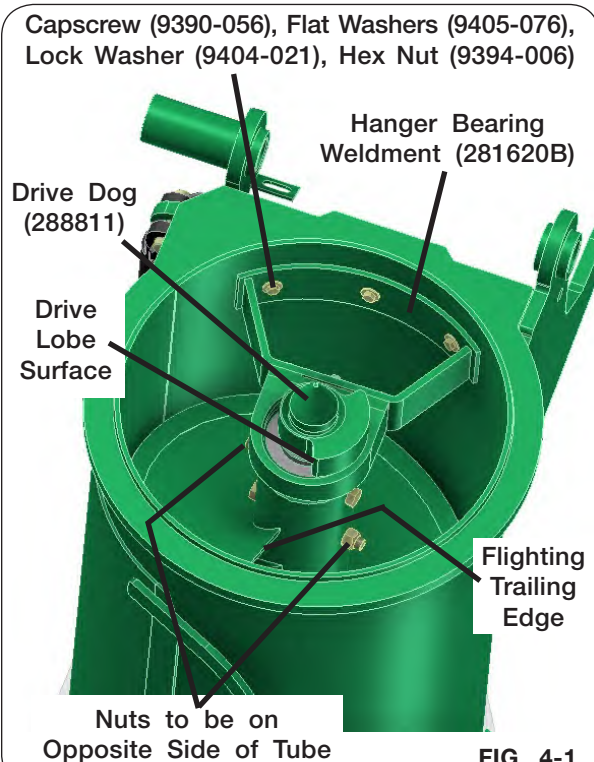

FIG. 4-1
1. Remove the three 3/8"-16UNC x 1 1/4" capscrews (9390-056), six 3/8" flat washers (9405-076), three 3/8" lock washers (9404-021) and 3/8"-16UNC hex nuts (9394-006) which secures the hanger bearing weldment (281620B) to the auger tube (Fig. 4-1).
3. Remove the two 5/8"-11UNC x 6" capscrews (9390-136), 5/8" lock washers (9404-029) and 5/8"-11UNC hex nuts (9394-014) which secures the drive dog to the auger as shown in FIG 4-1.
Lower Auger: Assemble the drive dog weldment (288811) and hanger bearing weldment (281620B) to the auger making sure the drive dog weldment contact surface (for upper auger pin) is located approximately 30 degrees behind the lower auger flighting trailing edge. Secure with two 5/8"-11UNC x 6" capscrews (9390-136), 5/8" lock washers (9404-029) and 5/8"-11UNC hex nuts (9394-014), installed opposite of each other, as shown in Fig. 4-1.